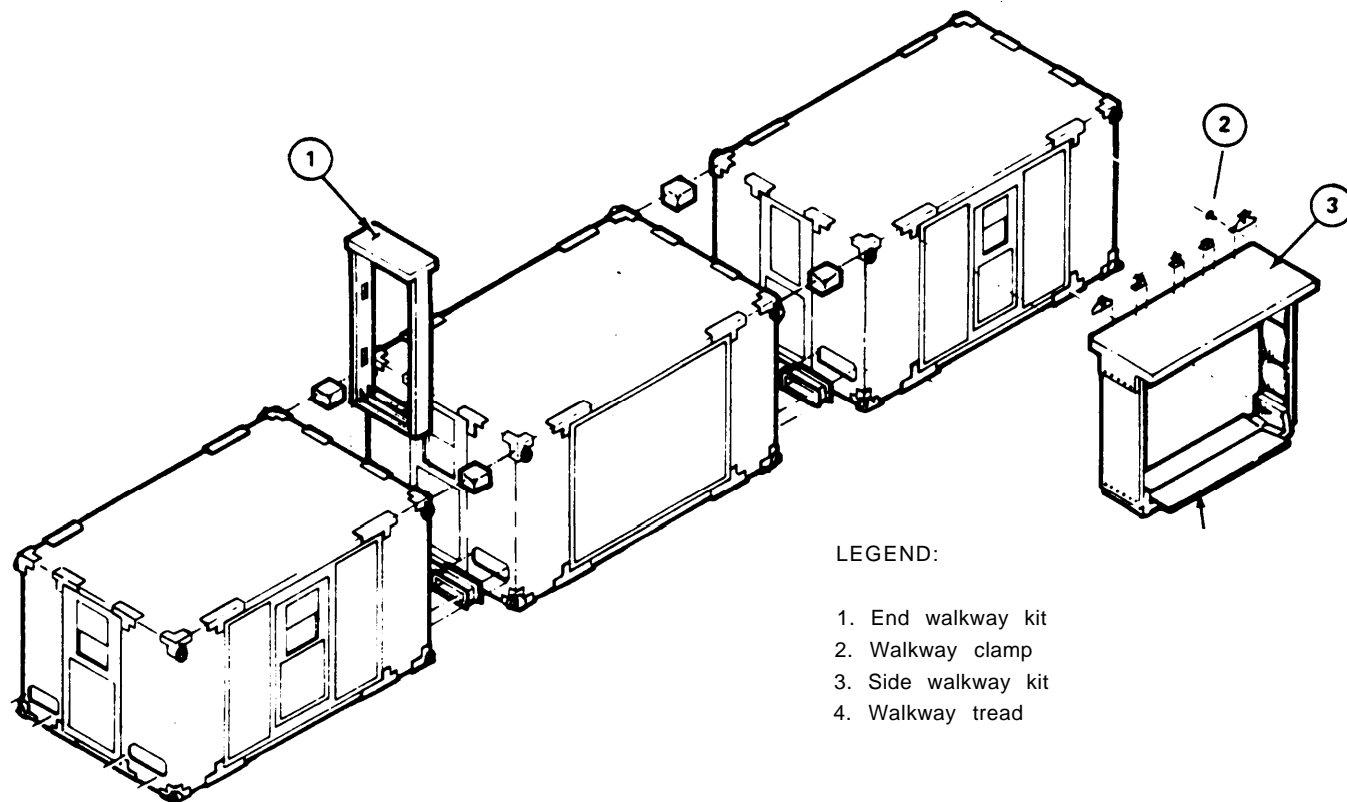

Figure 7-6. End and Side Walkway Kits
a. *General.* more shelters may be interconnected side-to-side or end-to-end by use of side and end walkway kits (fig. 7-6). The use of one or more kits depends on the number of intended shelters and installation configuration.
b. *Walkway Cover Installation* (fig. 7-6).
(1) Remove walkway cover package from storage and lift onto roof at position to be connected.
(2) Drop cover into position between shelters, allowing top of cover to support it in position.
(3) Insert wing nuts through cover from top of shelter to hold cover in position. Do not tighten at this time.
(4) From inside the shelter, reach inside shelter cover and start all wing nuts around perimeter. Do not tighten at this time.
(5) From on top of the roof, tighten all wing nuts to compress top of cover to shelter.
(6) Check contact of gasket between cover and shelter and ensure that lip pieces at the bottom of cover are resting on shelter panel opening extrusion. Tighten all wing nuts around inside perimeter of cover to ensure a weather-proof seal.
b. Walkway Cover Installation (fig. 7-6).
(1) Remove walkway cover package from storage and separate into individual parts, a top, a bottom, two side sections, and a bow assembly.
(2) Position bottom part in place between shelters, with lip pieces along bottom nesting around edge of shelter panel opening extrusion. Install bottom boot between shelters and secure with wing nuts.
(3) Lift top section to shelter roof above panel opening to be connected.
(4) Position top section in place and insert wing nuts to hold top section in place. Do not tighten wing nuts at this time.